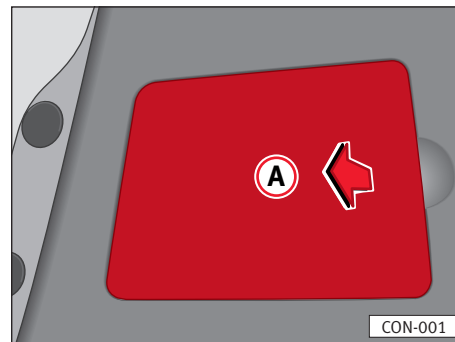

Fig. 157
- Remove the plastic cover ⇒ **fig. 157 (A)**, introducing the finger in the crack and pulling in the direction of the arrow.